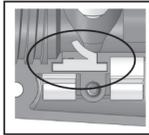

Figure 7: Ball Latch properly installed into the right receiver half.
- If the **Ball Latch** (8) needs to be replaced, pry the old one out of the Right Receiver Half. Put the new Ball Latch into the Right Receiver Half, oriented as shown in Figure 7 (circled item).
- Remove the **Screw** (23) from the **ASA** (29). Slide the ASA from the pin in the Right Receiver Half. Be sure to keep track of the **Nut** (30). If necessary, you can unthread the ASA from the **Gas Line** (21). Use teflon tape on threads for assembly.